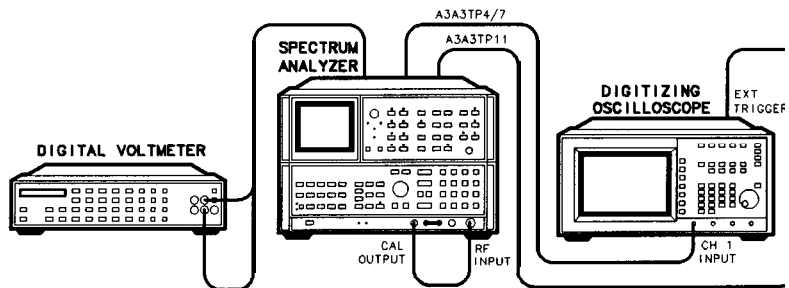

Figure 3-104. Digital Storage Display Adjustments Setup
1. Place spectrum analyzer upright as shown in Figure 3-104 with IF-Display Section top cover and A3 Digital Storage cover removed.